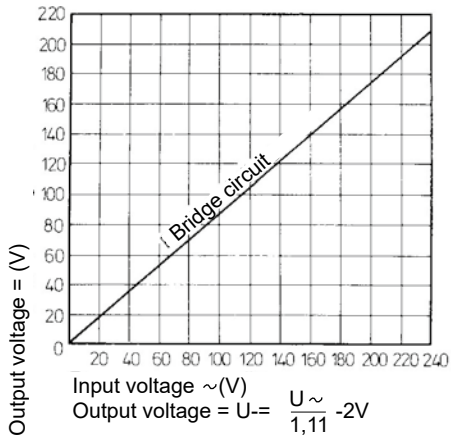
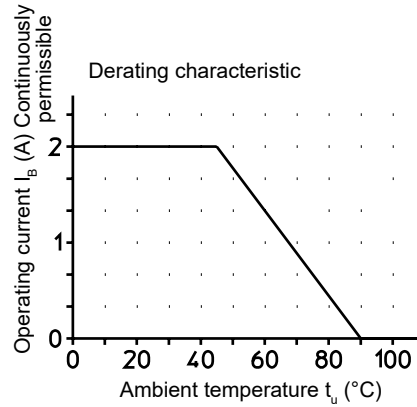

Fig. 3 MSM-Fo 0804.1386
Fig. 4 Derating characteristic 100% ED for the plug connector with rectifier type Z KC G 209 B01
- 3) The indicated current applies only for a reference temperature of 30°C. Ampacity for higher reference temperatures according to fig. 4. In Switzerland limited to 1.5 A (dotted line) by SEV-directive 1011. Output voltage according to fig. 3.